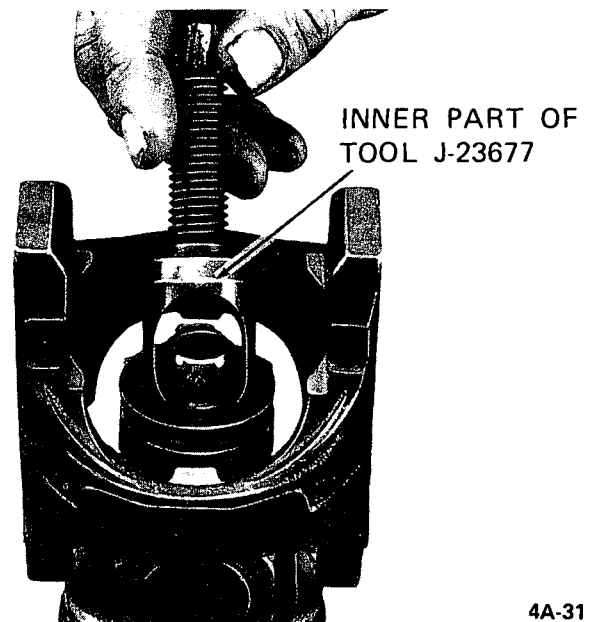

Figure 4A-31 First Step - Removing Centering Ball with Tool J-23677
B. Place outer cylinder of Tool J-23677 over outside of ball. See Figure 4A-32.